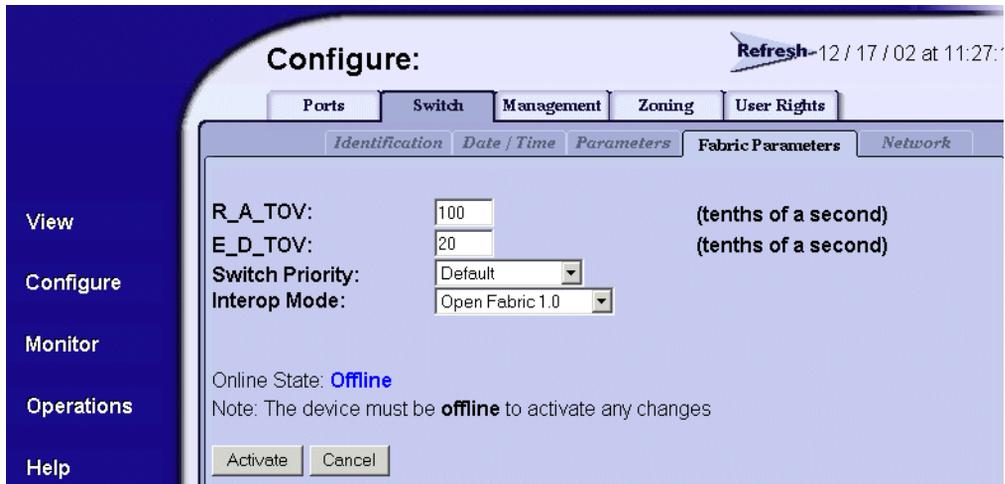

Figure 2-7: Switch page—Fabric Parameters tab
3. At the **Configure** panel, click the **Switch** tab, then click the **Fabric Parameters** tab. The **Switch** page displays with the **Fabric Parameters** tab selected, as shown in Figure 2-7.